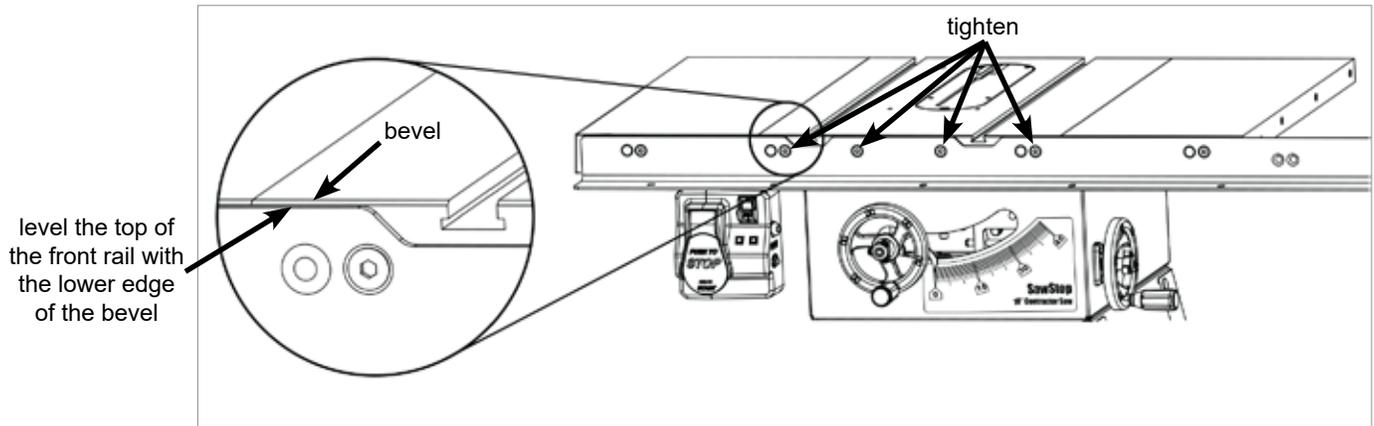

Fig. 3
- The holes in the front edge of the table and extension wings are slightly larger than the bolts they receive to allow you to level the front rail and extension wings to the table top. Align the top of the front rail with the lower edge of the bevel on the front edge of the table top (see Fig. 3). Use a 5 mm hex key and a 13 mm wrench to fully tighten the nuts on the back of the four bolts that extend through the table top. Do not tighten the nuts on the bolts that extend through the extension wings.